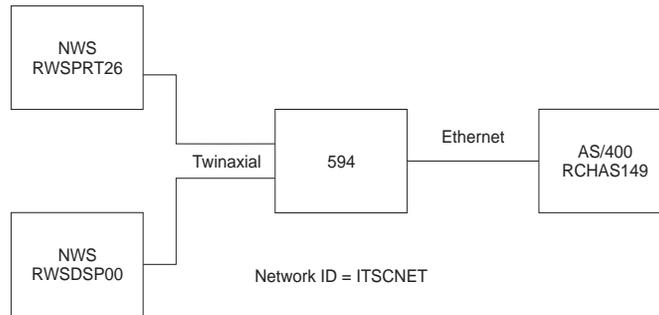

Fig. 11: AS/400 Ethernet configuration
- Fig. 11: AS/400 Ethernet configuration 7